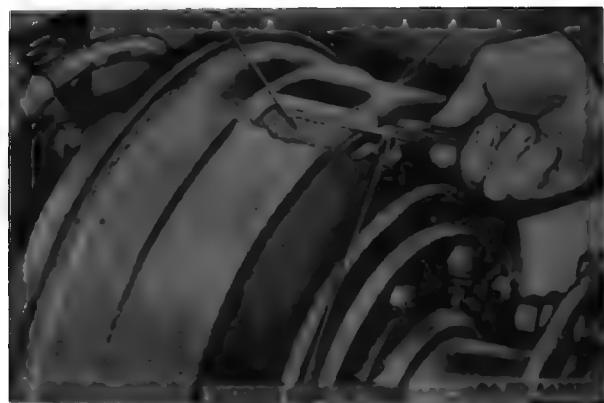

Figure 155. Checking clearance between brake lining and drum.
- (4) Remove the wheel and tire assembly (par 111a) and insert a thickness gage or feeler (fig. 155) through the inspection hole in the brake drum to check the clearance between the brake lining and the brake drum. Rotate the drum, taking care not to twist or damage the gage. The clearance between the lining and drum should not be less than 0.025-inch or greater than 0.050-inch. If it does not fall within these limits, readjust the brakes as in (3) above.
(5) When the brakes are properly adjusted, install the wheel and tire assembly (par. 111b).